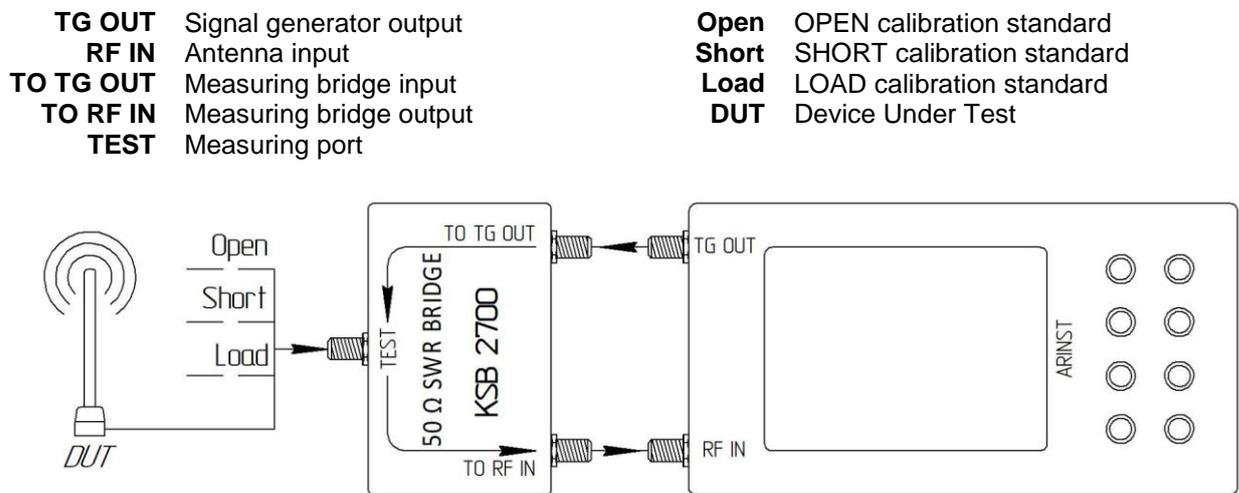

Figure 8.4.5 – Connecting the measuring bridge to the spectrum analyzer
Note. To measure the reflection coefficient **S11**, it is necessary to use a directional coupler or measuring bridge at the appropriate frequency range (not included in the package). In our example in figure 8.4.5 the **KROKS KSB 2700** measuring bridge is specifically designed for use with ARINST spectrum analyzers.
8.4.3.5. Connect the output of the signal generator (1) **TG OUT** of the device to the input of the measuring bridge **TO TG OUT** according to the wiring diagram in figure 8.4.5.
8.4.4.5. Connect the output of the signal generator (1) **TG OUT** of the device to the input of the measuring bridge **TO TG OUT** according to the wiring diagram in figure 8.4.5.